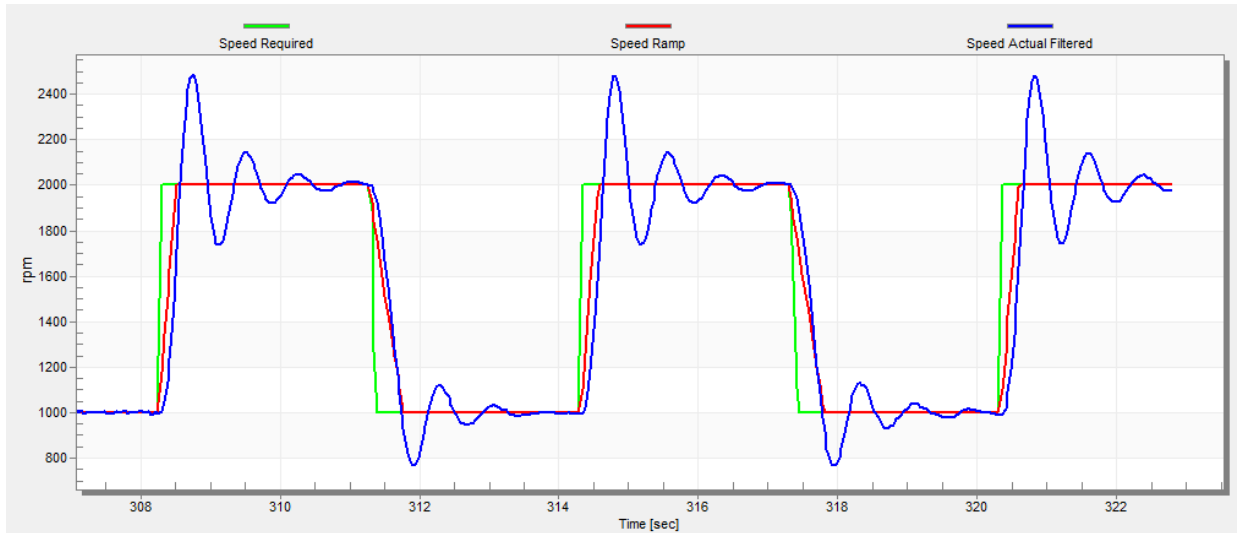

Figure 56. Speed controller response— SL_Kp value is low, Speed Actual Filtered greatly overshoots
- The “SL_Kp” value is low, the “Speed Actual Filtered” greatly overshoots, and the long settling time is unwanted (see Figure 56).